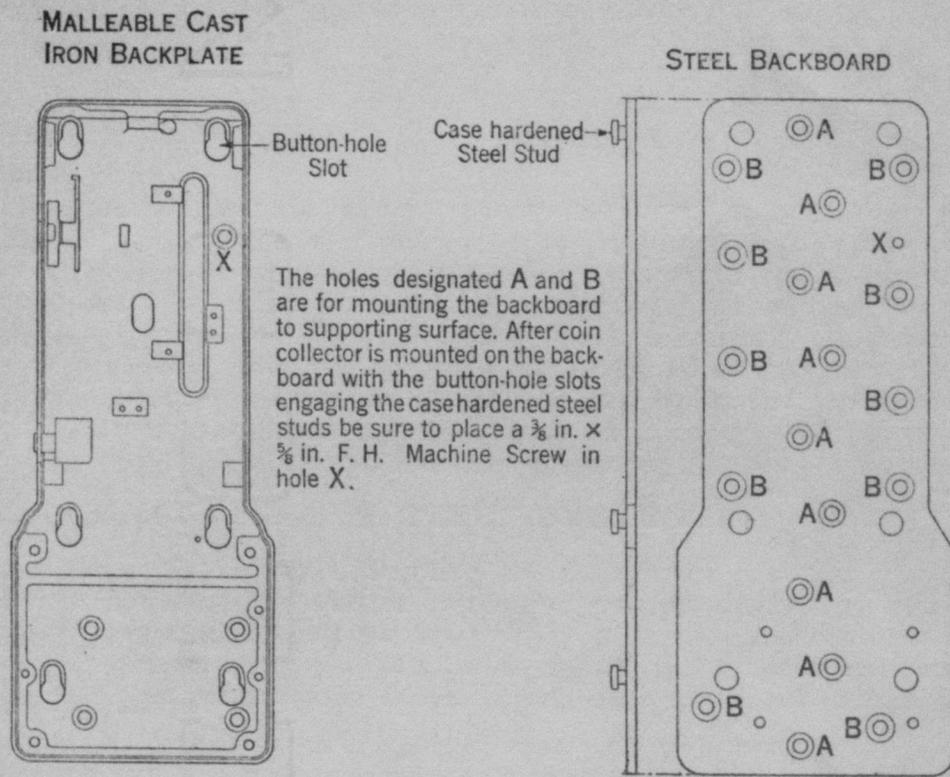

Fig. 1
2.01 Fig. 1 shows the general design of the malleable cast iron backplate and the steel backboard. The holes in the backboard designated A are for use when the backboard is fastened to studding with No. 14 wood screws. Those designated B are for use under all other mounting conditions. Bushings are furnished with the backboard for use in the A mounting holes to insulate the backboard from the mounting screws. It is necessary to use these bushings only when the mounting screws are apt to strike grounded objects such as metal lath.
3.01 The malleable cast iron backplate of the coin collector has six vertical button-hole slots as shown in Fig. 1. These slots engage the six  $3/8$  inch case-hardened studs on the backboard.
3.03 After the studs and slots have engaged properly, place a  $3/8$  inch x  $5/8$  inch F.H. steel machine screw in the hole designated X in Fig. 1. This screw should never be omitted. If the coin compartment is open, place four  $3/8$  inch x